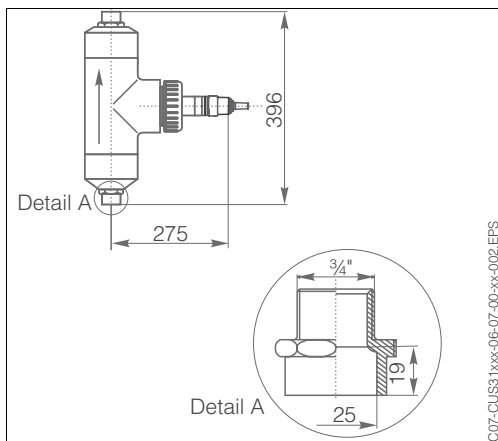
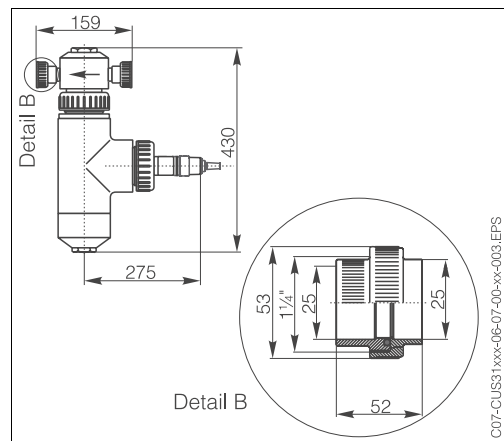

Fig. 10: Flow assembly E
Fig. 11: Flow assembly S
- When installing **assembly E**, the in-flow and out-flow is vertical (flow direction from bottom to top, → Fig. 10), and horizontal (→ Fig. 11) when installing **assembly S**.